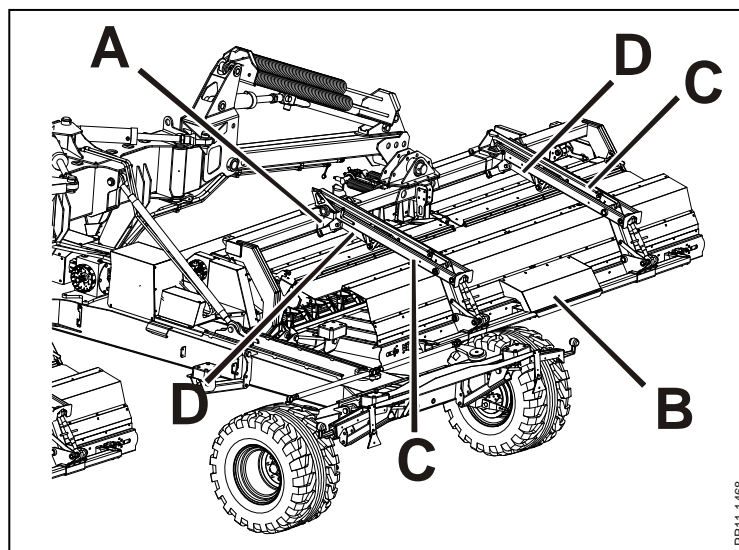

Fig. 3-1
**Fig. 3-1** The complete Collector unit consists of a right-hand and a left-hand unit, a hydraulic block at the middle of the machine and an additional relief spring. At each side the units consist of a suspension **A** which is attached to the Top Safe frame on the standard machine with bolts and a belt unit **B** which is suspended in a frame **C** behind the machine. The unit can be lifted with the hydraulic cylinders **D** when the belt is not being used.